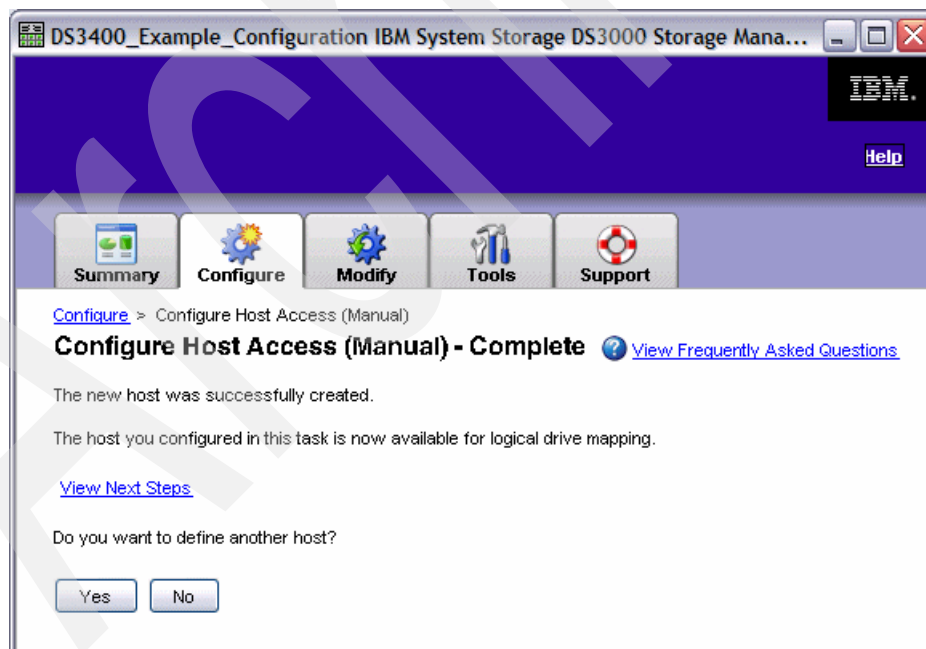

Figure 26-12 Host definition is complete
6. On the completion window (see Figure 26-12), you can define another host. As we will use just this host server, we do not want to define another one at this time. Click **No**.